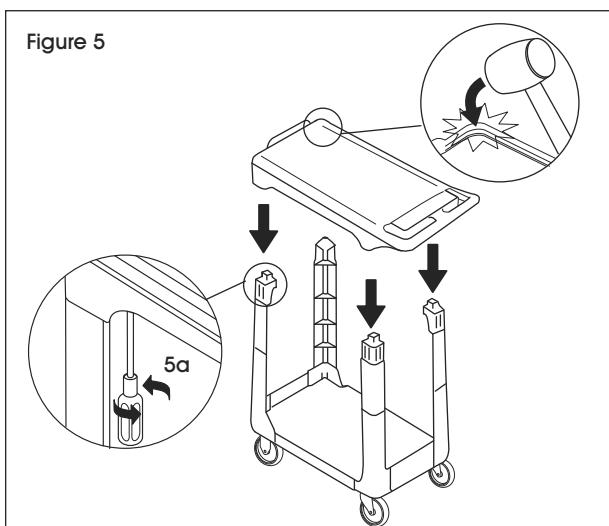

Figure 5
8. Turn cart upright so casters are on the ground and supports are vertical. (See Figure 5)